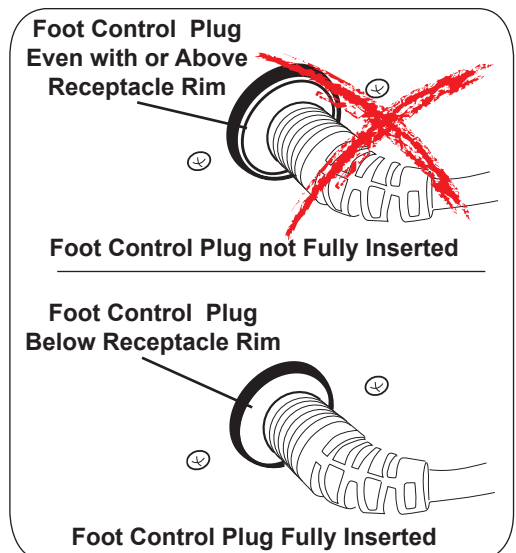
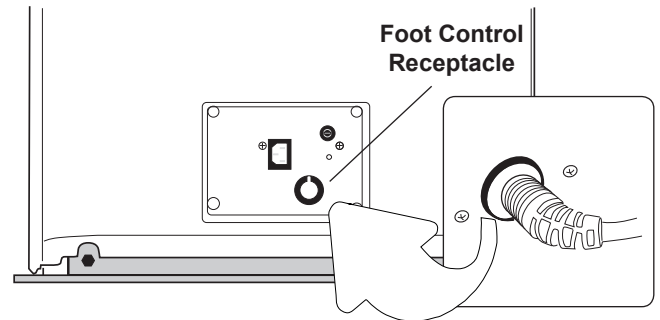

Figure 6. Foot Control Properly Pugged In
Figure 17. Foot Control and Power Cord Receptacles
Note: The plug may appear to be fully inserted and yet have some distance to go. Wiggle the foot control plug while pushing it in firmly to ensure that it is fully seated (Figure 6).
2. Insert the male plug of the foot control cord into the receptacle on the table (Figure 17). Make sure the plug is fully seated. See Figure 6 for proper insertion of the foot control plug. Failure to properly insert the foot control plug can cause some functions to not operate properly